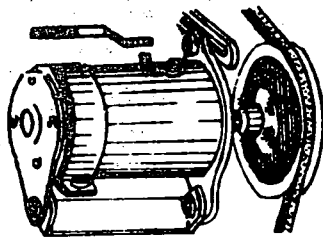

Fig. 4
- a) Disconnect the leads and mark their position (Fig. 4)..